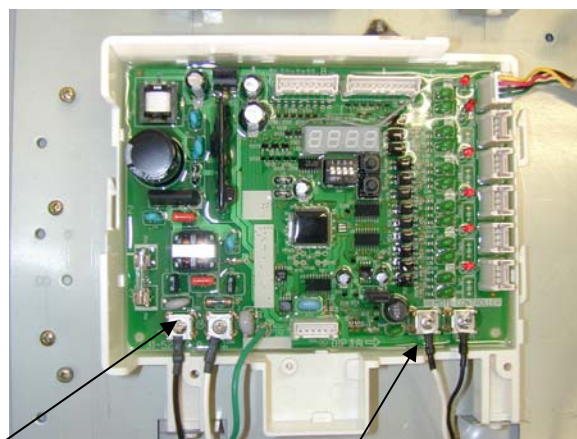

Figure 10
2. Connect the wires from the main remote control (UMC-117) to the terminals on the bottom right corner of the main communication PCB as shown in figure 10.